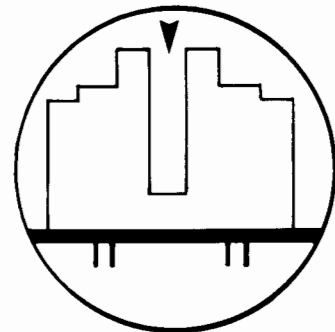

Figure 5-9. Cleaning Paper Exit Sensor
- j. Wipe the paper exit sensor clean with a dry cloth as shown in figure 5-9.